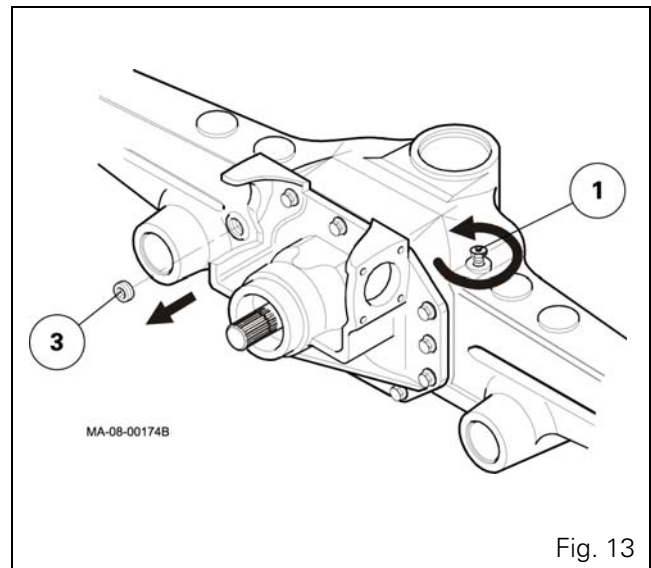

Fig. 13
2. Before unscrewing the oil filler cap (3), systematically loosen the breather (1) to release any internal residual pressure (Fig. 13).